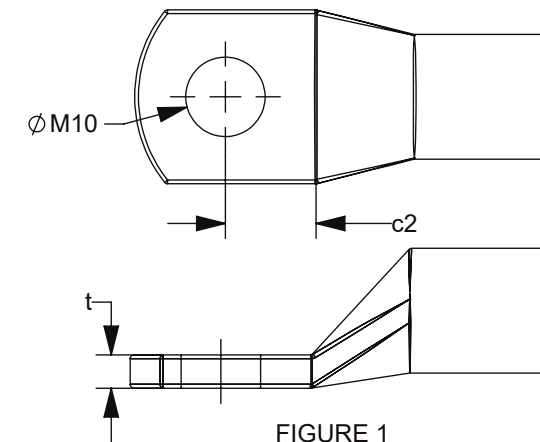

FIGURE 1
3. ASSEMBLE THE ISOLATED BOLT, M10 RING TERMINAL, & M10 ZCASE TO THE BASE ASSEMBLY. SECURE THE BOLT TO $16 \pm 2 \text{ N}\cdot\text{m}$. BE SURE THE RING TERMINAL DIMENSIONS MATCH THE FOLLOWING REQUIREMENTS (FIGURE 1):